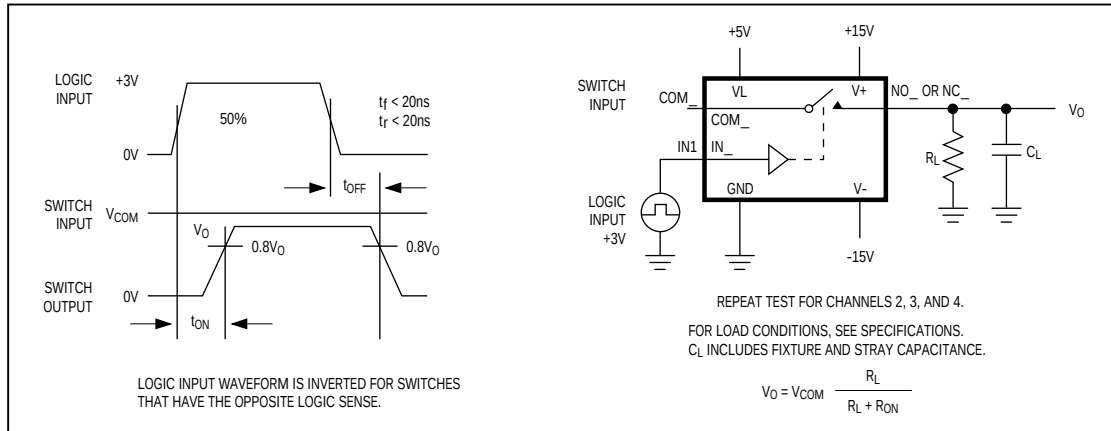

Figure 2. Switching-Time Test Circuit
| Turn-On Time               | tON       | VNO or VNC = ±10V, Figure 2                                           | TA = +25°C        |      | 150             | 250   | ns    |
| Turn-Off Time              | tOFF      | MAX364, VNO or VNC = ±10V, Figure 2                                   | TA = +25°C        |      | 90              | 120   | ns    |
|                            |           | MAX365, VNO or VNC = ±10V, Figure 2                                   | TA = +25°C        |      | 110             | 170   | ns    |
| Turn-On Time            | t ON                                               | V NC or V NO = 8V, Figure 2                                                                                         | T A = +25°C                                |      | 300             | 400  | ns    |
| Turn-Off Time           | t OFF                                              | V NC or V NO = 8V, Figure 2                                                                                         | T A = +25°C                                |      | 60              | 200  | ns    |
**Note 5:** See Figure 2. Off Isolation =  $20 \log_{10} \left( \frac{V_{COM}}{V_{NC} \text{ or } V_{NO}} \right)$ , VCOM = output, VNO or VNC = input to off switch.